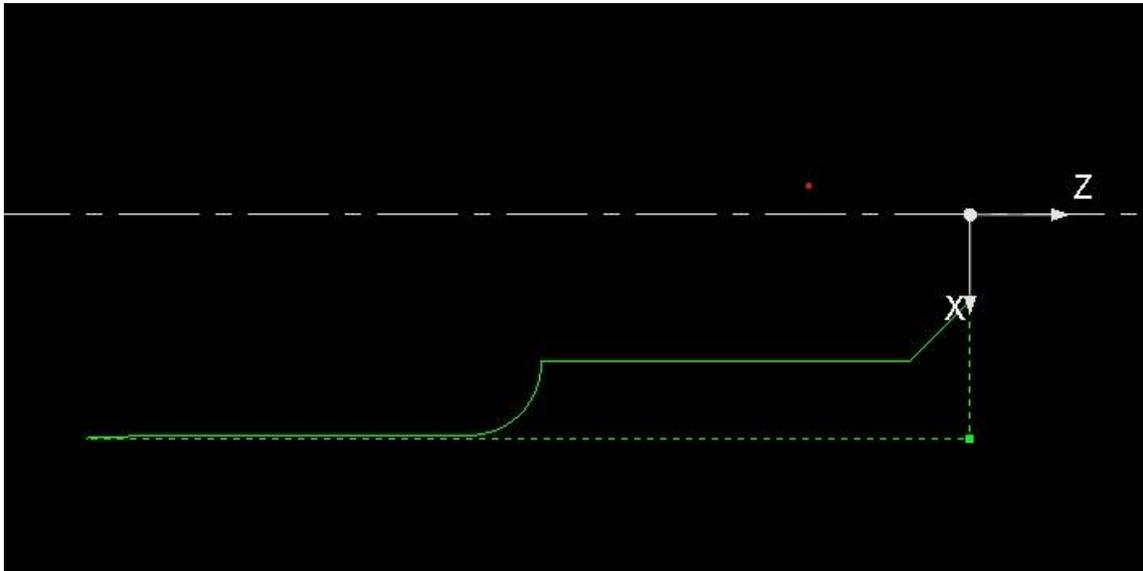

Figure 28
8. Continue defining the part geometry. Note that a final TURN or ARC event must extend to the diameter of the stock and be followed by CYCLE POSN (position) events that define the extent of the stock (see Figure 28). POSN events are represented as dashed lines.
9. Once the geometry resembles Figure 28, tap END CYCLE to move on.